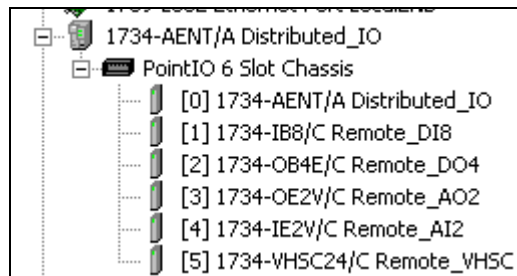

Fig. 1m.7. The branch 1734-AENT/A Distributed_IO of the project window
If the configuration was setup correctly the branch **1734-AENT/A Distributed_IO** of the project window tree will look like Fig. 1m.7.
2) Select **Generic Ethernet Module** from the list and click **OK**. The **Module Properties** dialog window is presented in Fig. 1m.8. Enter the following parameters: